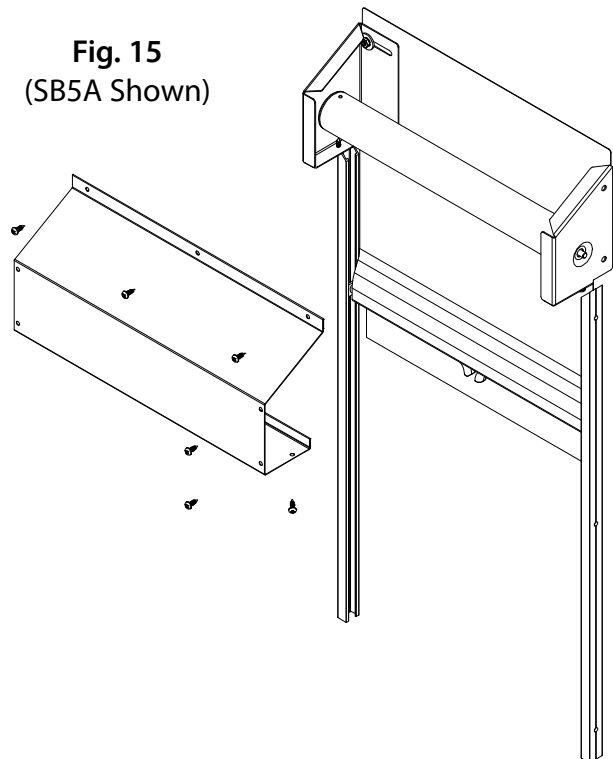

Fig. 15
7. SECURITY BOX COVER (FIG. 15)